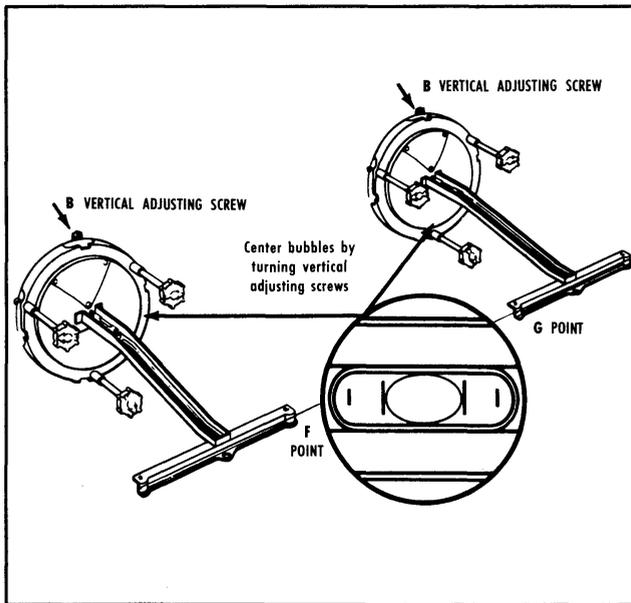

Fig. 13-59 Vertical Aim
- a. Loosen vertical adjusting screws "B", then tighten until bubbles are centered in level. (See Fig. 13-59)